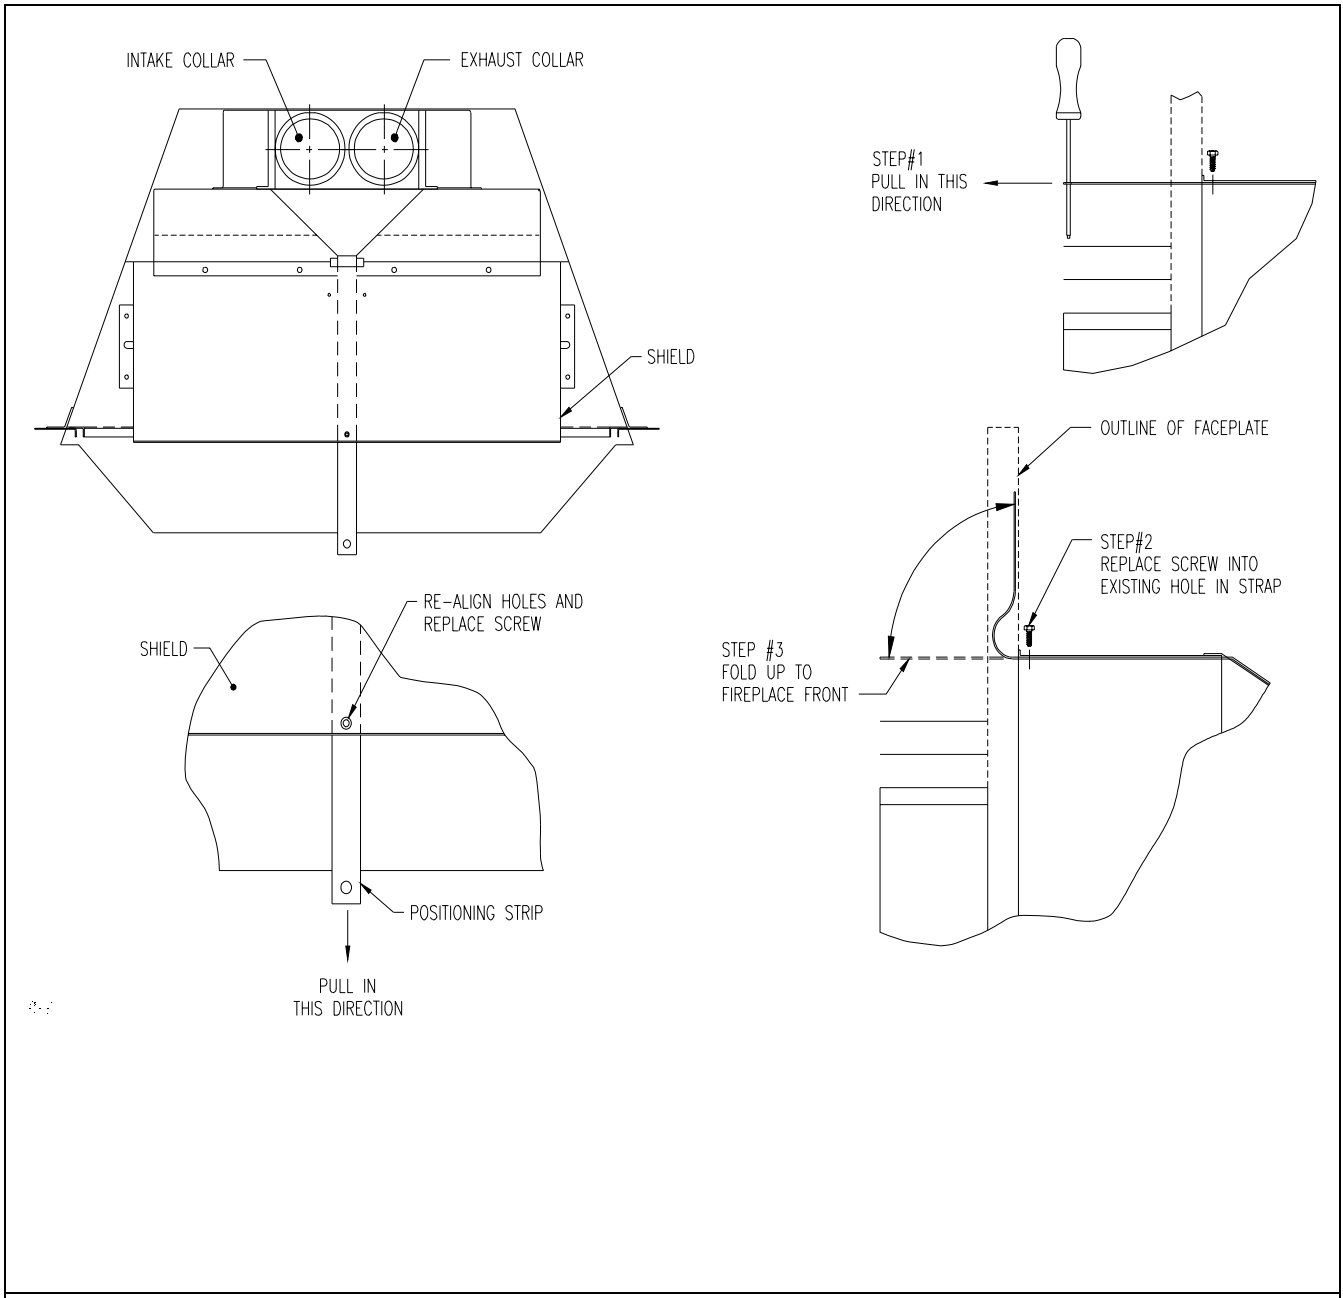

Figure 11
- a. Detach the vent connector plate by removing the screw securing the positioning strip to the top of the air jacket (Figure 11) and slide the vent connector plate off to the rear (Figure 12).
- d. Push the insert back into the enclosure, feeding the positioning strap through the slot at the top rear of the air jacket. Ensure that the strap passes freely under the air jacket and that it doesn't get caught in parts protruding from the firebox top. Continue to push the insert back as the strap is fed through until the hole on the strap lines up with the corresponding hole on the air jacket. A screwdriver can be used, if required, to help pull the strap forward. Secure the strap in position by replacing and tightening the screw in the top of the air jacket (Figure 11).
- e. Bend the forward end of the strap back and up against the fireplace front so that the faceplate can be installed (Figure 11).